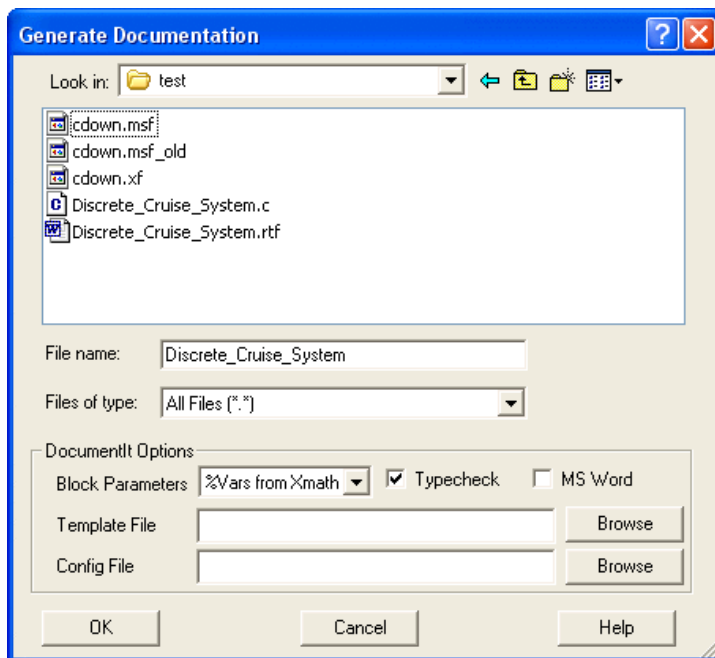

Figure 6-1. Generate Documentation Dialog Box
- Select **Tools»DocumentIt** to bring up the **Generate Documentation** dialog box, as shown in Figure 6-1.